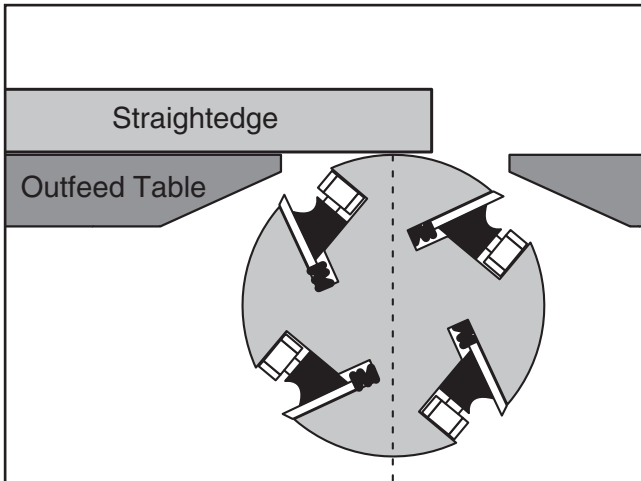

Figure 7. Checking cutterhead parallelism with a straightedge (repeat at both ends of cutterhead).
9. Using the straightedge and feeler gauge set, inspect the cutterhead parallelism with the outfeed table as shown in **Figure 7**. With the straightedge in position, raise or lower the outfeed table until the cutterhead body (not the knife) just touches the straightedge. Move the straightedge to the other side to determine if one end of the cutterhead is higher/lower than the other. (Place the feeler gauge between the knife edge and the straightedge to determine the height difference.)